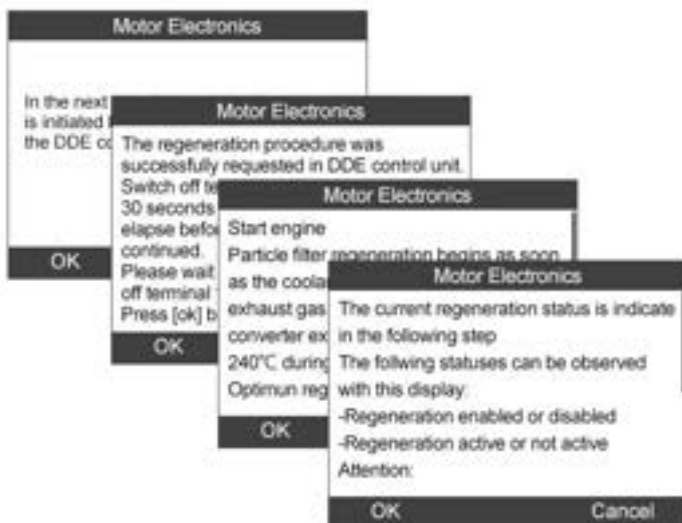
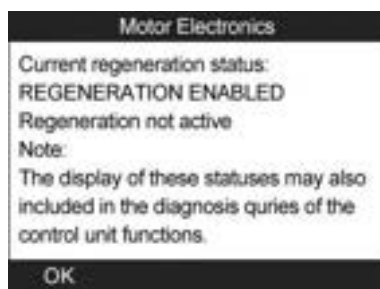

Figure 11.24
Figure 11.25
- 4) A series of instruction screens appears for users to perform the particle filter regeneration step by step. Follow the onscreen instructions and press the **OK** button (*Figure 11.24*). Do this until the tool reads off the regeneration status as below (*Figure 11.25*).